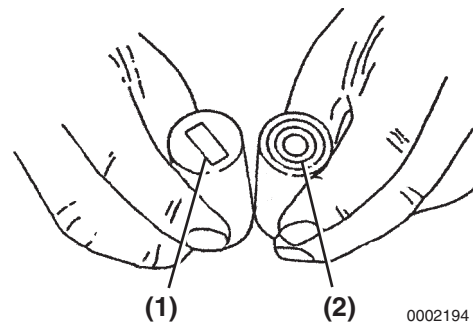

Figure 6-72
1. Inspect the tappet contact surfaces for abnormal wear (Figure 6-72, (1)). Normal wear will be even as shown in (Figure 6-72, (2)). Slight surface defects can be corrected using an oilstone.